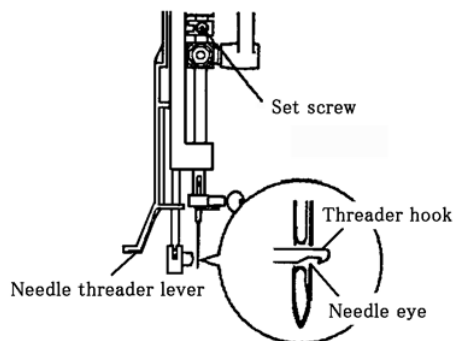

Fig.1
2. Loosen the threader arm set screw, adjust the height of threader arm. (Fig. 1)